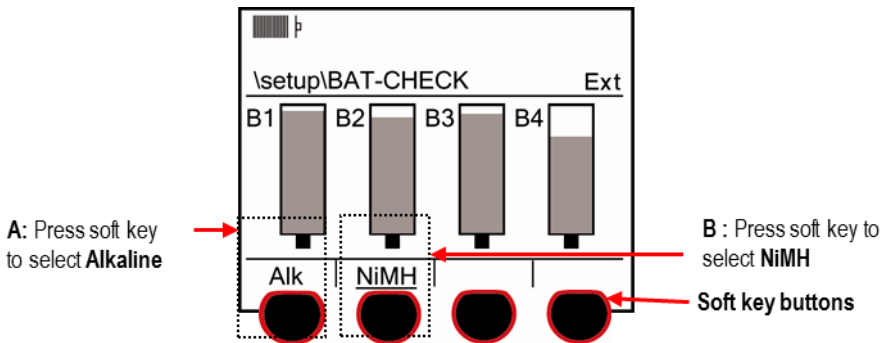

Figure 2-7: Selecting battery type in battery check screen
- Press the soft key that corresponds with the installed battery type (See “A” or “B” in Figure 2-7 for selection). The label above the soft key is underlined to indicate the current selection.